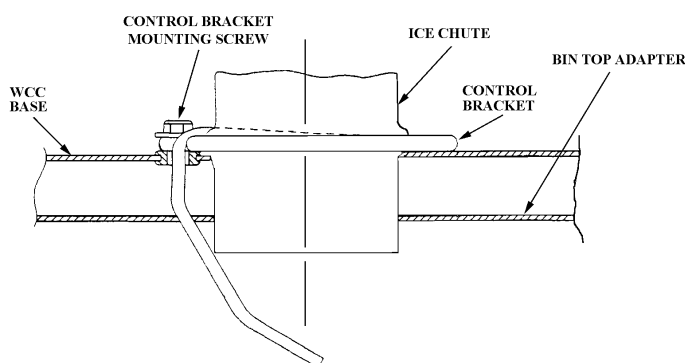

FIGURE 4. BIN CONTROL
3. Check location of bin control, it should be directly under ice chute at a 45° angle. With control in place use mounting screw that was removed in step 1 to secure bracket to base. See Figure 4